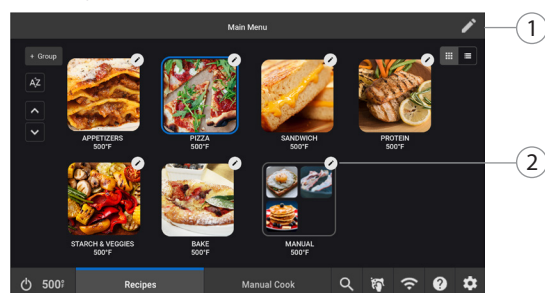

Figure 28: Select Group to Edit
- Touch the Edit button in the top-right corner of the screen (Figure 28, above).
- Touch the Edit Pencil button for the group you want to edit (Figure 28, above).
- Select an option (Figure 28, adjacent column).